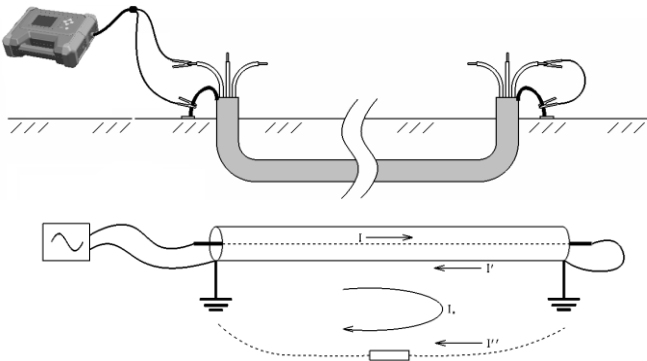

Fig.3.3 Phase-Sheath Method
As above fig.3.3 shows, signal is applied between cable one phase and sheath, short the far end phase and sheath, keep the both ends of the sheath grounded.
- Example C: the cable is parallel with the target cable, but the path is not same (generally, the terminals are in different position ), the test result is: the current of target cable is  $I$ , but the value is smaller than injected, phase is at  $0^\circ$  vicinity, identification is correct, the current of neighboring cable is near to 0, phase is near to  $180^\circ$  or unstable, identification is error (as shown in Fig 3.3).